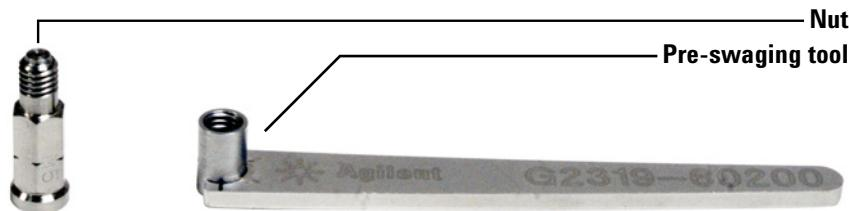

Figure 34 Volatiles interface nut and pre-swaging tool (G4556-67018)
- a** Pass the transfer line tubing end through the SilTite ferrule leaving approximately 1 cm of tubing protruding beyond the ferrule. Thread the pre-swaging tool onto the nut (Figure 34) with the tubing protruding through the tool.